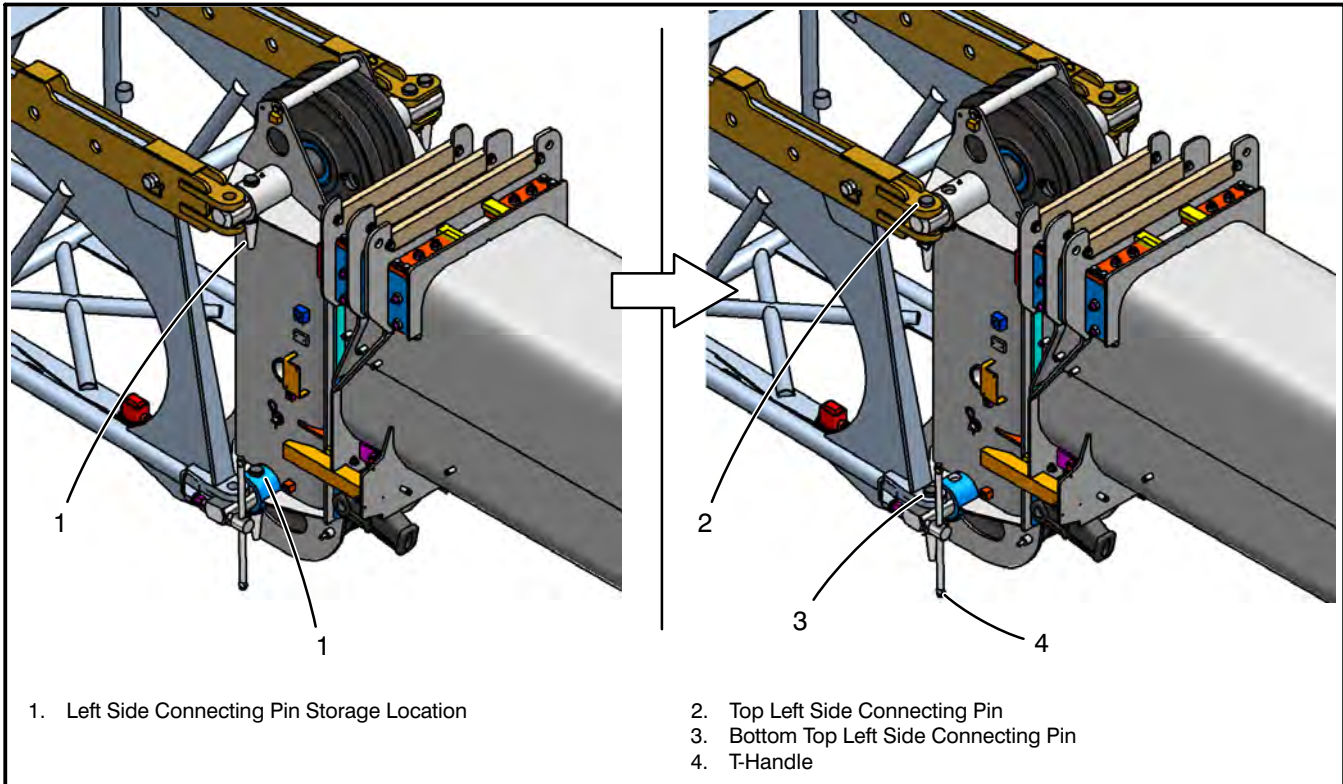

Figure 4-7
9. Remove the two fly connecting pins from the boom head machinery cross shafts on the left side of the boom head. Refer to Figure 4-7. Install the top pin to connect the fly lug to the top head machinery cross shaft on the left side of the boom head. Turn the t-handle to push and align the bottom left fly lug and the bottom boom head cross shaft. Install the bottom left fly connecting pin. (Install the pins with the head on top and keeper on the bottom.) Install the pin keepers.